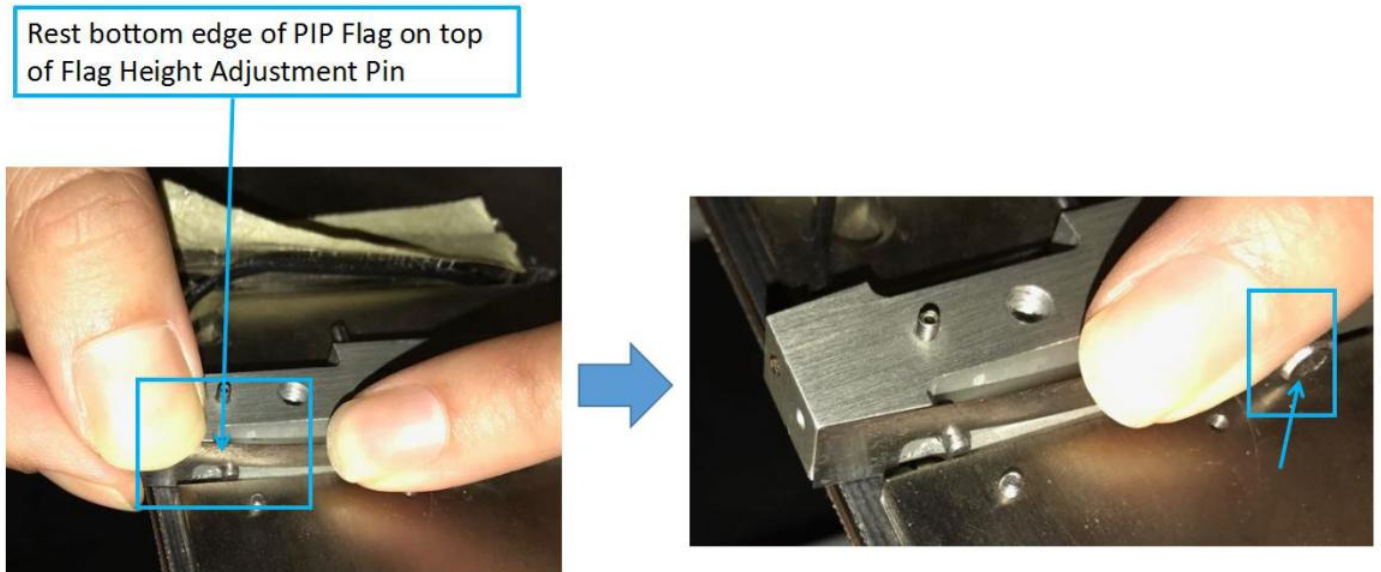

Figure 5 PIP Flag Screw Fastening
8. While holding the flag firmly against on the flag height adjustment pin, tighten up the screws which secure on the PIP Flag. May refer to below Figure 5.